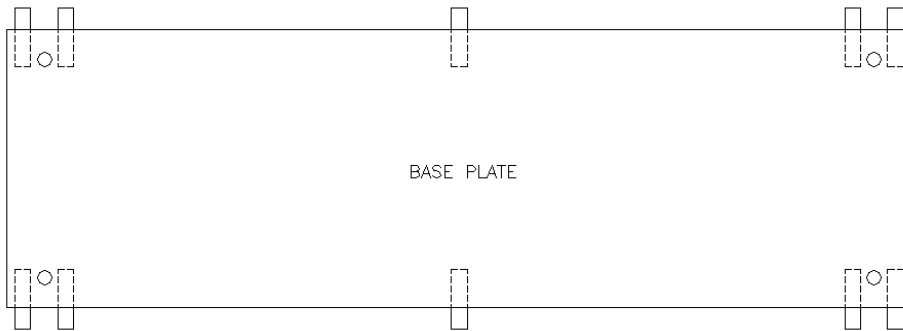

Figure 6-3: Wedge Locations
3. Shims/wedges should be placed on the sub base, as shown in **Figure 6-3**. Use 2 to 3 per stack to obtain desired gap between baseplate and sub-base. Normal gap is 1" to 1-1/2".